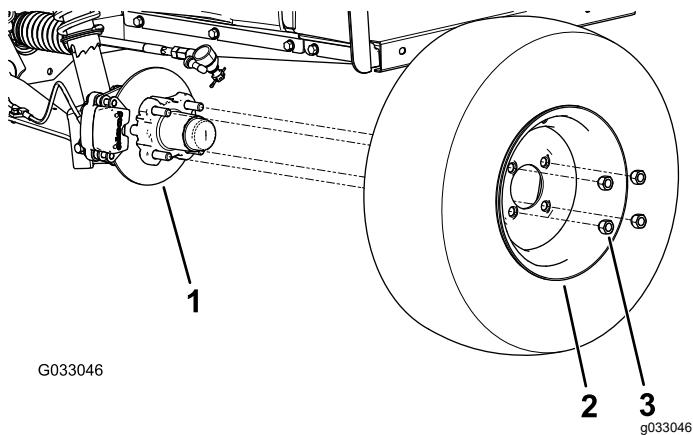

Figure 28
2. Remove the 4 lug nuts that secure the wheel to the hub (Figure 28).
4. Align the holes in the wheel to the studs of the hub and assemble the wheel to the hub with the valve stem outward (Figure 28).
5. Secure the wheel to the hub using the lug nuts (Figure 28).